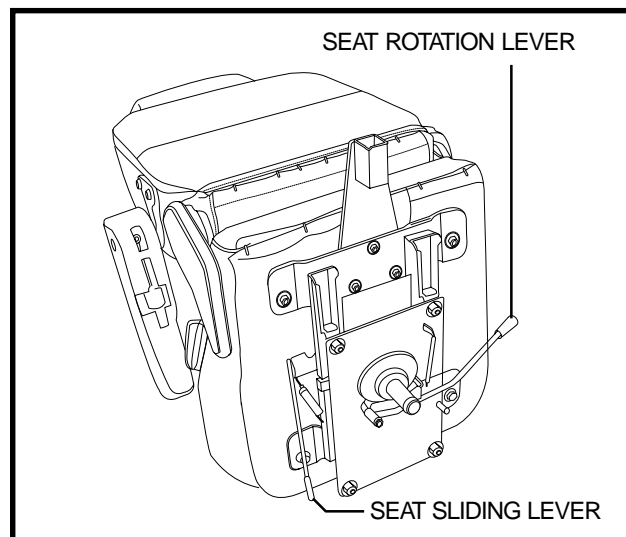

Figure 16A. Seat Adjustment Levers
1. Push forward on the seat rotation lever to disengage the seat. See figure 16A.
You can reposition the seat forward or rearward to adjust the distance between the seat and the tiller. See figure 16A.